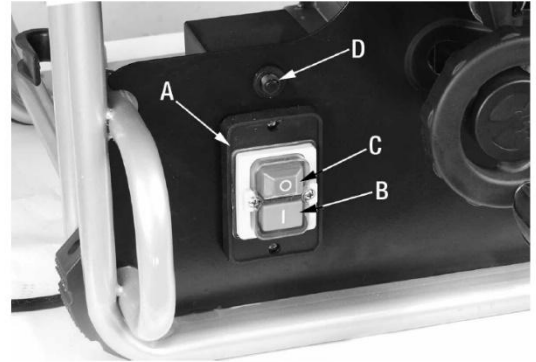

FIGURE 3
The ON/OFF switch (A) Fig.3 is located on the front of the Table Saw. Press the green ON button (B) to turn Table Saw On. Press the red OFF button (C) to turn Table Saw Off.
This table saw comes with an overload reset button (D) Fig.3 (above the ON/OFF Switch). A safety mechanism stops the motor automatically due to the motor overheating or low voltage. Allow the saw to cool or plug the saw into outlet with sufficient voltage and then press the reset button to restart the Table Saw. If the table saw does not restart, wait 5 minutes before restarting.